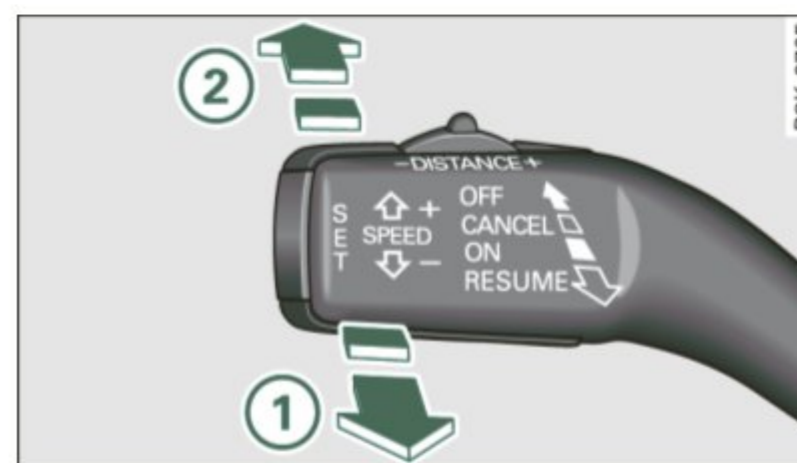

Fig. 114 Control lever: Switching on and off
- Pull the lever to position ① ⇒ fig. 114.